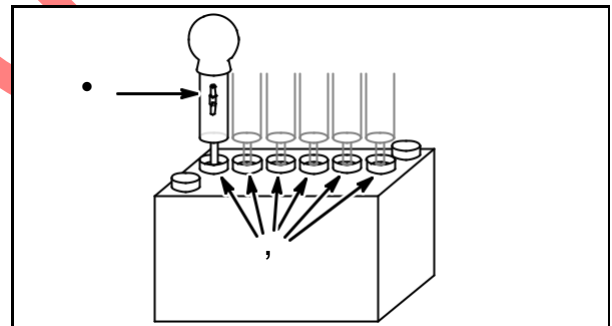

Fig. 43
With battery fully charged, check specific gravity readings of each cell (2) with a hydrometer (1) and record readings, **Fig. 43**. All readings should be above **1.250** (compensating for temperature). If specific gravity readings vary **.50** or if all cells read less than **1.225**, replace battery.